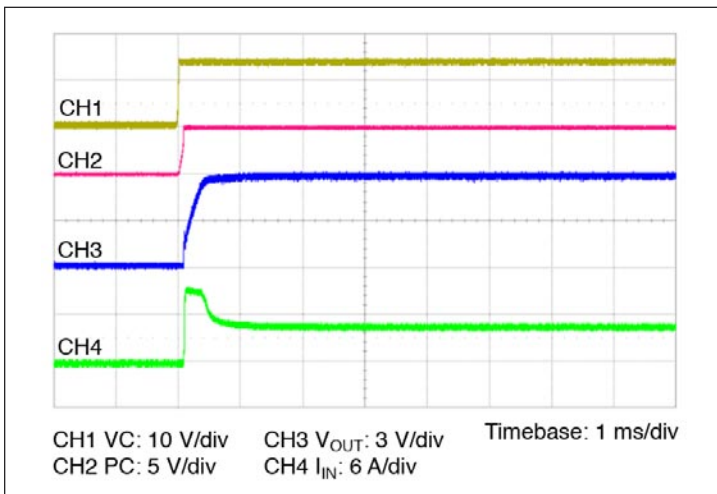

Figure 11 — Start up from application of VC;
- **Stand-alone operation (VC applied after V_{IN}):** In this case the VTM output will begin to rise upon the application of the VC voltage (See Figure 11). The Adaptive Soft Start Circuit (See Section 11) may vary the output rate of rise in order to limit the inrush current to its maximum level. When starting into high capacitance, or a short, the output current will be limited for a maximum of 120 μ sec. After this period, the Adaptive Soft Start Circuit will time out and the VTM module may shut down. No restart will be attempted until VC is re-applied or PC is toggled. The maximum output capacitance is limited to 4000 μ F in this mode of operation to ensure a successful start.